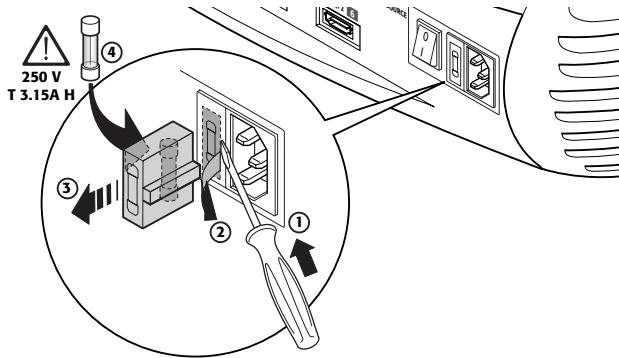

Fig.3
The fuse compartment is next to the power supply connector (Fig. 3). Remove the fuse holder (2) with a flat head screwdriver and replace the fuse (3). Fit a new spare fuse (4). Use only T 5A H fuses.